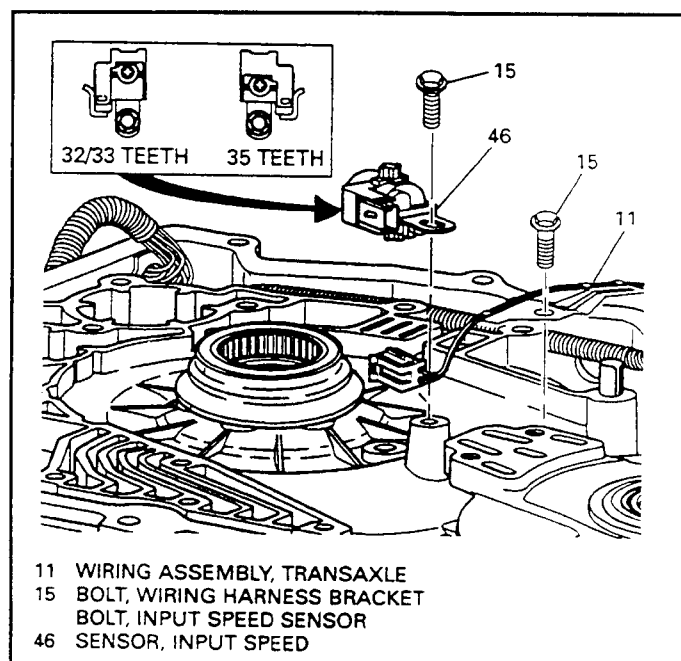

Figure 66
61. Disconnect the wire harness connector from the input speed sensor (See Figure 66).
62. Remove the input speed sensor retaining bolt, and the input speed sensor (See Figure 66).
63. Remove the harness retainer clip bolt and the retainer clip (See Figure 66).